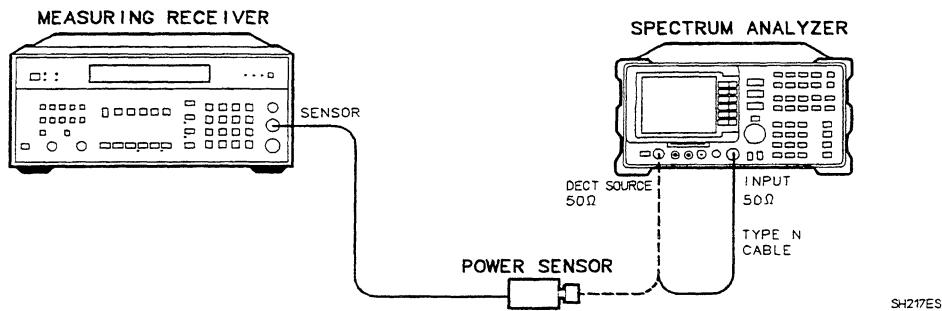

Figure 10-2. BITG Power Level Adjustment Setup
8. Disconnect the cable from the DECT SOURCE 50Ω connector. Connect the power sensor to the DECT SOURCE 50Ω connector. See Figure 10-2.